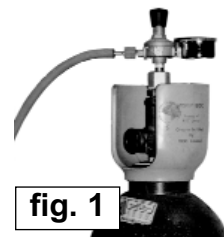

fig. 1
- 3.2.2. Fit the gas regulator on the Bull Nose Adaptor and connect it to the machine gas hose (fig. 1).